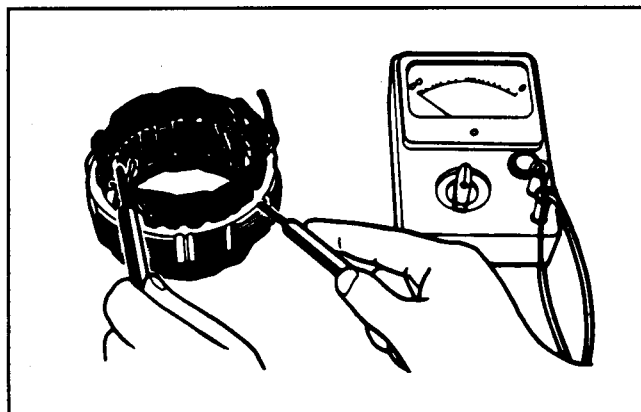

Figure 43
13. Check for continuity between each lead wire and stator core (Fig.43). Replace the stator coil if there is continuity.